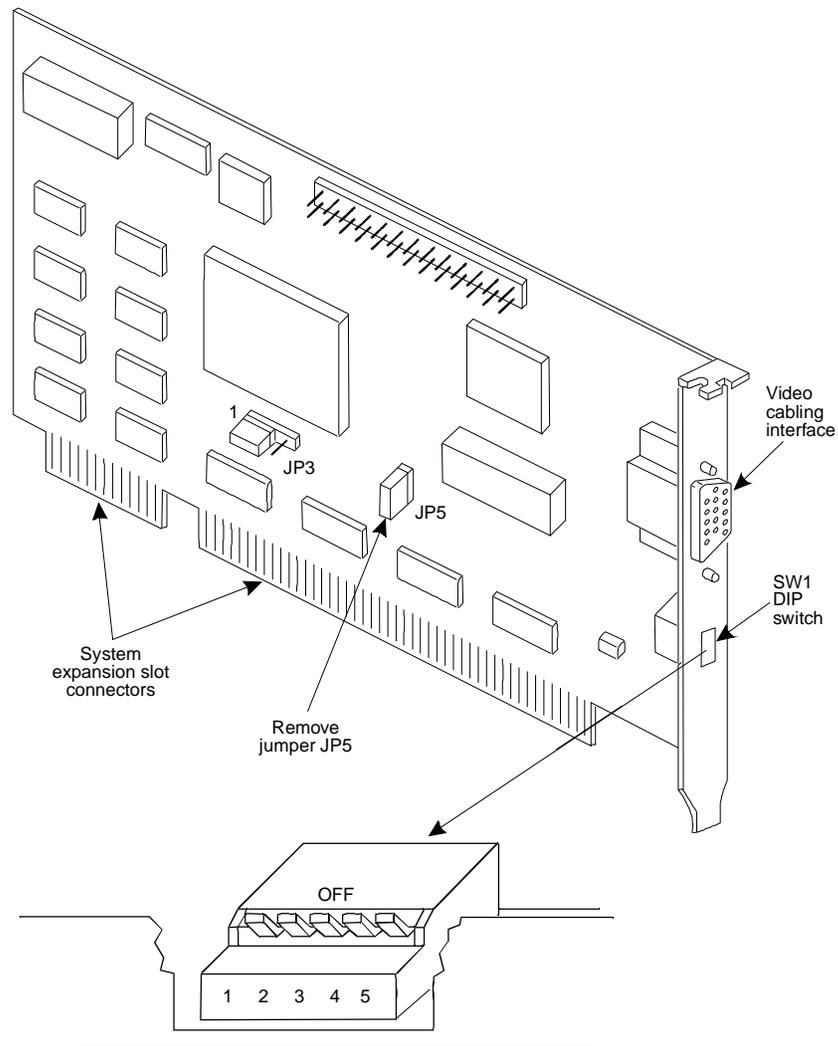

Figure 9-12. Video Controller Card with Switch Settings – Version 2
3. Set the dip switches on the card faceplate (Figure 9-12). Use the point of a pen or a similar instrument to set the switches. Do not use a lead pencil. The graphite can damage the card.
4. Set the jumpers as shown in Figure 9-12.